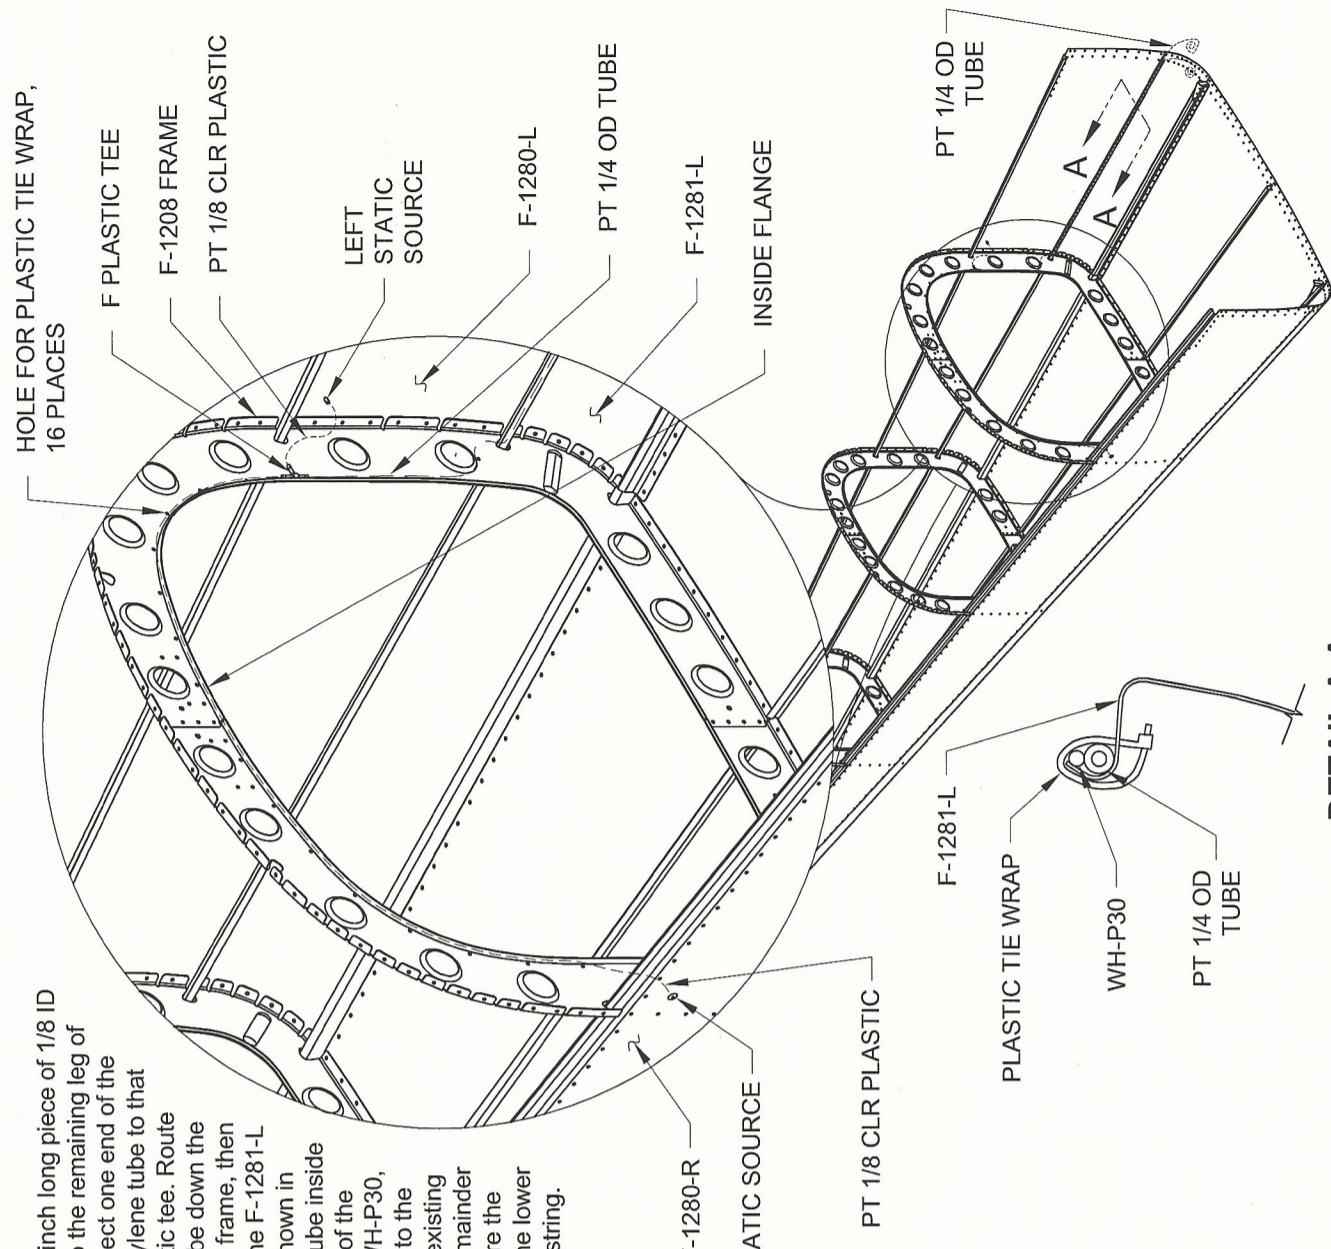

FIGURE 2:
Step 6: Follow the 'Installing the Static Air System' instructions to install the left and right side static sources into the F-1280-L & -R Left and Right Side Skins in the locations called out in Figure 2.
Step 8: Install a 1/4 inch long piece of 1/8 ID Clear Plastic Tube to the remaining leg of the plastic tee. Connect one end of the PT 1/4 OD Polypropylene tube to that same leg of the plastic tee. Route the polypropylene tube down the inboard flange of the frame, then to the J-stiffener of the F-1281-L Lower Left Skin as shown in Figure 2. Route the tube inside the J-stiffener 'hook' of the lower skin with the WH-P30, shown in Detail A-A, to the forward edge of the existing structure. Coil the remainder of the tube and secure the coil to the inside of the lower left skin with tape or string.